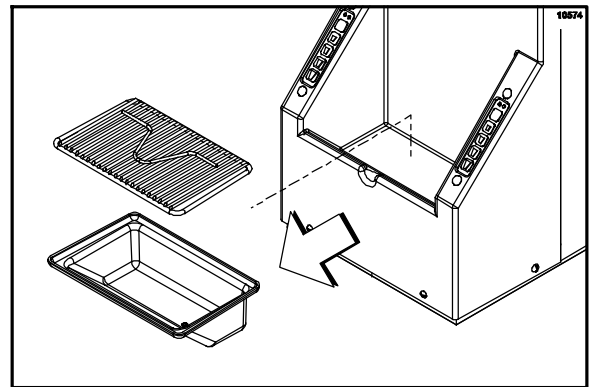

Figure 33
11. Remove the drip tray and the splash shield. Take these parts to the sink for cleaning and sanitizing. (See Figure 33.)